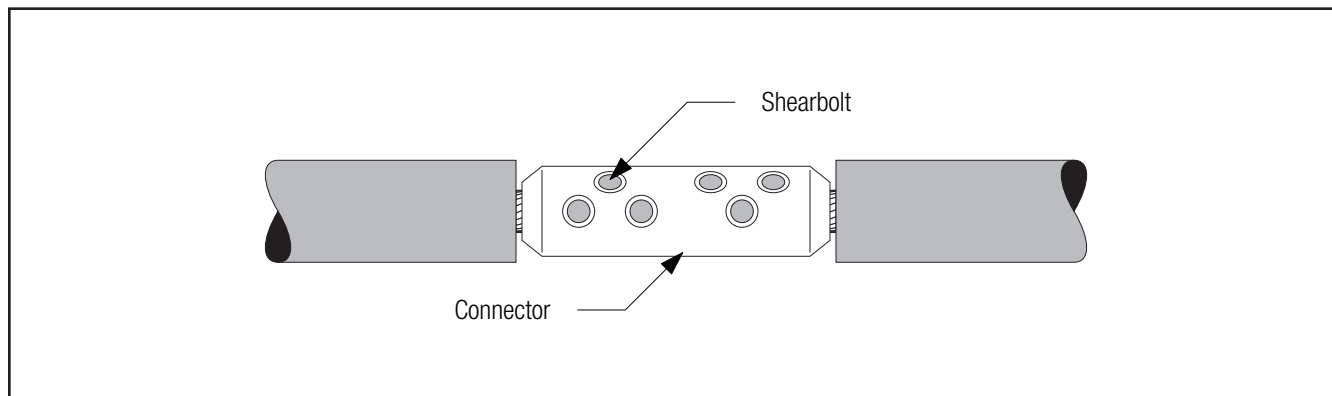

Figure 13
- 4.2** Install 3M™ Shearbolt Connector QCI 350-750 according to the instructions included with the connector (Figure 13).